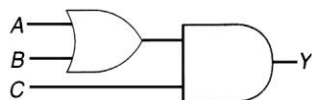

Figure 4-14 Logic circuit for question 23.
23. The correct Boolean expression for the logic circuit of Figure 4-14 is _____. 23. _____